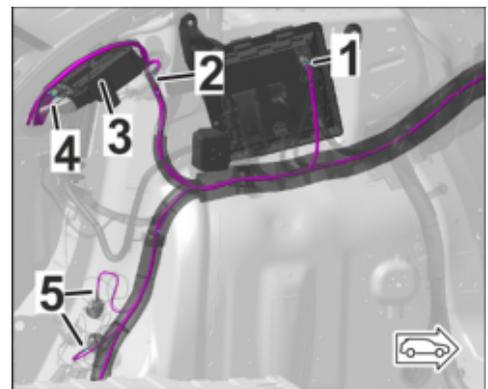

Figure 10
3.2.1 Pick up the CAN signal on plug A (⇒ Figure 10 -1-) from the rear-end electronics control unit (J393) at the rear left.
3.3.1 Fit rear left control unit holder. ⇒ Figure 10 -3-